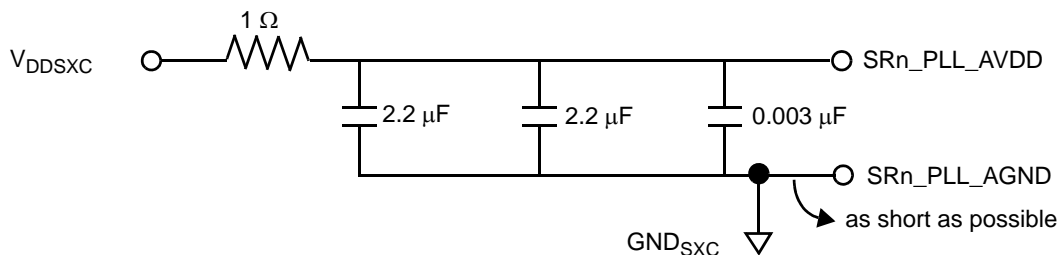

Figure 38. SerDes PLL Supplies
- Couple inputs SR1_PLL_AVDD and SR2_PLL_AVDD with SXCVDD1 and SXCVDD2 power rails, respectively, using an RC filter (see Figure 38).
Each SerDes PLL power supply must be filtered using a circuit similar to the one shown in Figure 38, to ensure stability of the internal clock. For maximum effectiveness, the filter circuit should be placed as closely as possible to the SRn_PLL_AVDD ball to ensure it filters out as much noise as possible. The ground connection should be near the SRn_PLL_AVDD ball. The $0.003 \mu\text{F}$ capacitor is closest to the ball, followed by the two $2.2 \mu\text{F}$ capacitors, and finally the 1Ω resistor to the board supply plane. The capacitors are connected from SRn_PLL_AVDD to the ground plane. Use ceramic chip capacitors with the highest possible self-resonant frequency. All trances should be kept short, wide, and direct.